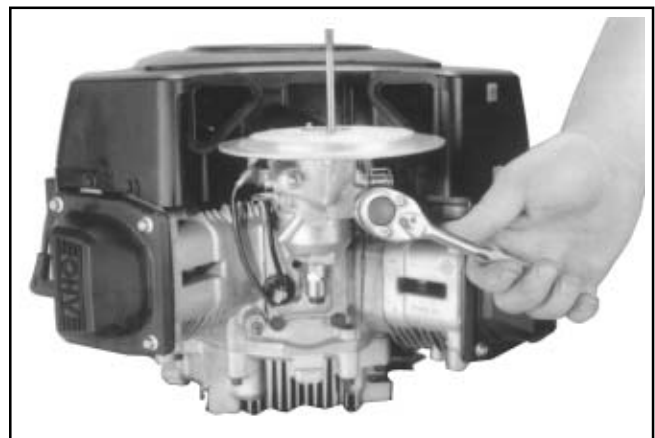

Figure 9-17. Removing Carburetor Mounting Nuts (Commercial Mower Base Shown).
2. Remove the two carburetor mounting nuts (commercial mower style air cleaners). See Figure 9-17.